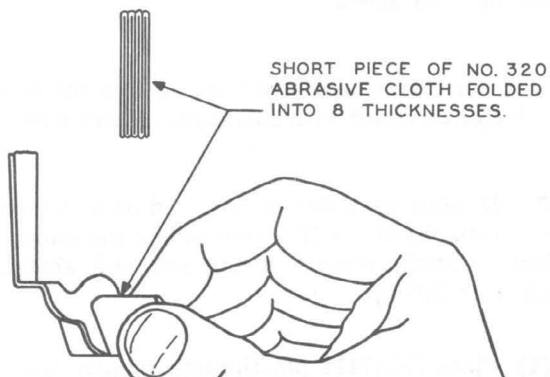

Fig. 9 — Polishing of Fork Slot
- (1) Clean and lubricate fork and vane stem as follows:
- (a) Surfaces of fork slot should be smooth. If bearing surfaces of fork are so rough that they cannot readily be made smooth, replace relay. Otherwise, smooth rough spots using No. 320 or finer abrasive cloth folded as shown in Fig. 9.